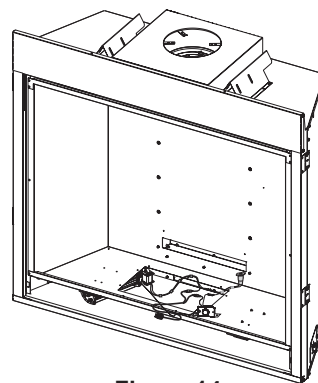

Figure 14
10. Install blower through burner cutout. **See Figure 14.**